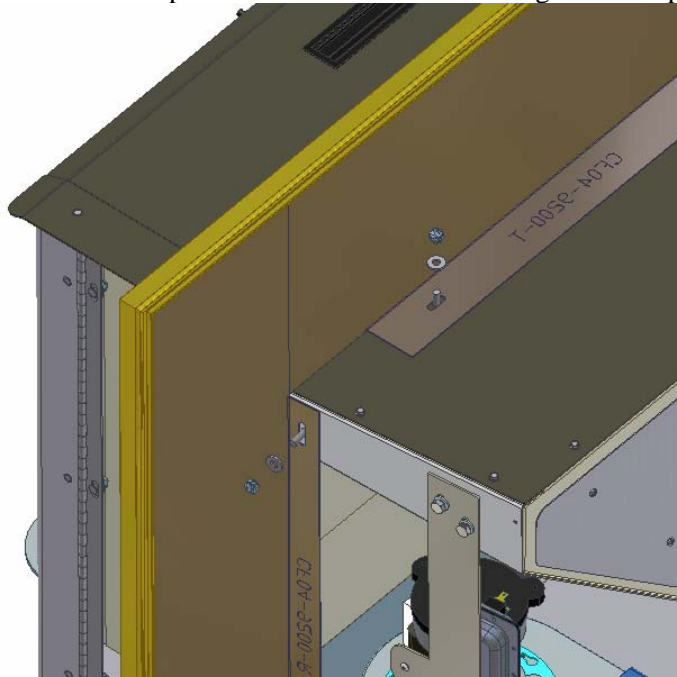

FIGURE 11a: CROSSFIRE SHROUD (rear view)
2. Remove the two 1/4-20 nuts and washers from the top of the Crossfire insert shroud mounting studs located on the top of the Crossfire hopper. Install the top shroud panel (as shown in FIGURE 11a) making sure the slots in the top shroud mounting flange are positioned over the mounting studs located on top of the Crossfire hopper. Now install the two washers and then the 1/4-20 nuts onto the studs. Do NOT tighten yet. Once installed, the nuts will hold the top shroud in place on the Crossfire until the top shroud is adjusted in its final position. The top